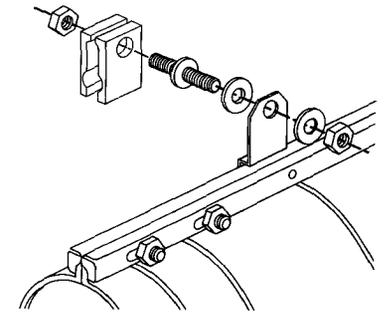

Figure 38 — Aerial PREFORMED Splice Case Assembly
- Be certain all nuts, washers, and plates are in their proper respective position (Fig. 38) and tighten down securely.